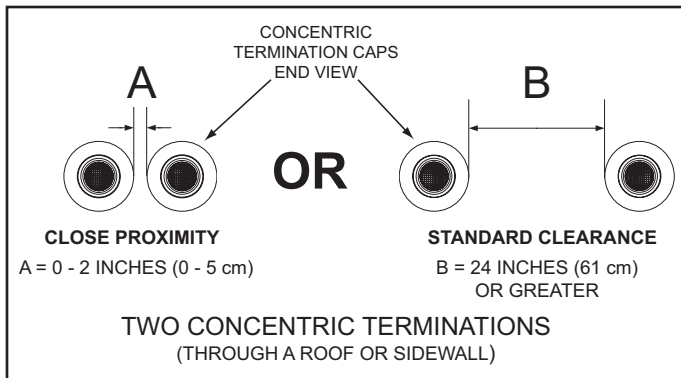
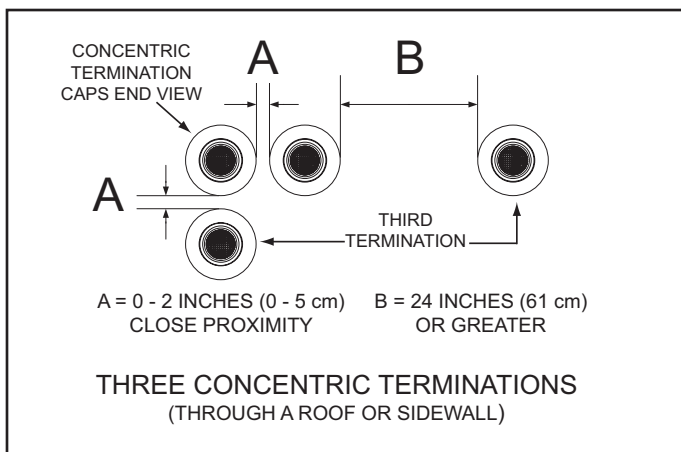
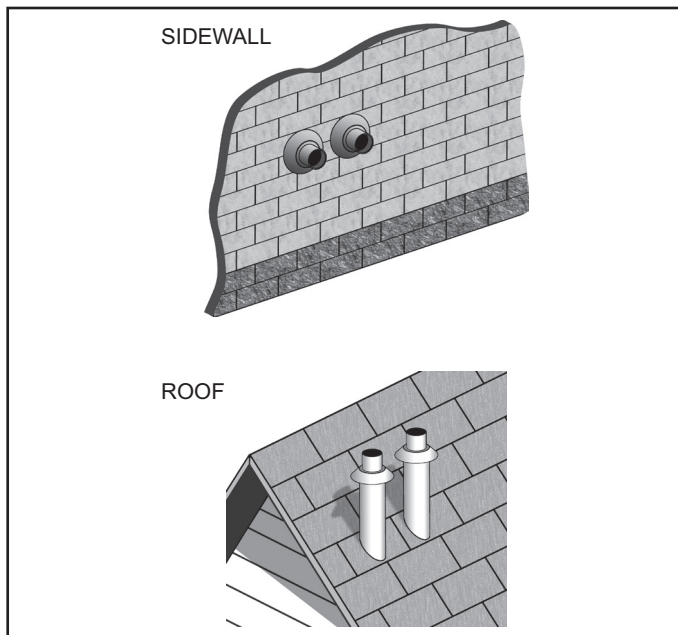

Figure 31
Figure 32
Figure 36
When installing multiple concentric terminations through a roof or through a sidewall the clearances shown in Figure 31 must be maintained.
1. The clearance between multiple termination caps must be 0 inches (touching) to a maximum of 2 inches (5 cm), dimension A - Figure 31, when installing concentric terminations in close proximity. See Figure 36 on page 33.
2. The clearance between multiple termination caps must be increased to a minimum of 24 inches (61 cm), dimension B - Figure 31, when installation in close proximity (above) is not possible. This is the standard clearance.
1. When installing three concentric terminations through a roof or through a sidewall the third termination may be installed in close proximity as indicated by dimension A in Figure 32.
2. If close proximity installation of the third termination is not possible the third termination may be installed as indicated by dimension B in Figure 32.
Two concentric terminations may be installed in close proximity as shown in Figure 36 or with standard clearances when this arrangement is not possible. See Figure 31 on page 32 for detailed information on clearances. See Figure 32 on page 32 when installing three concentric terminations.